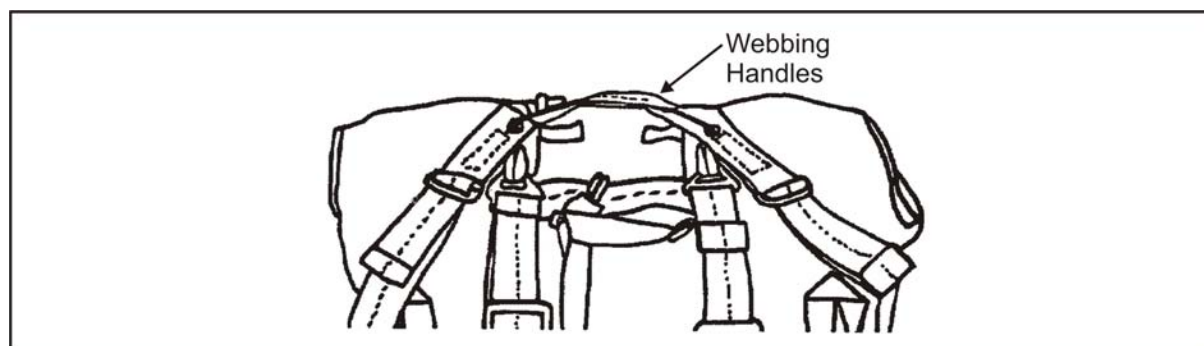

Figure 5-25. SARPELS Release Assembly
- Secures the single-point release strap with the Velcro within webbing handles (Figure 5-25, page 5-23).